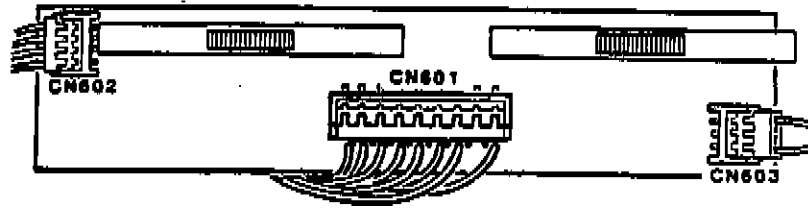

Figure 3-21. Connectors CN601, CN602, and CN603
3. Lift the controls assembly and pry cable connectors CN601, CN602, and CN603 from the assembly with a small flat-blade screwdriver, as shown in Figure 3-21. Set the controls assembly aside.